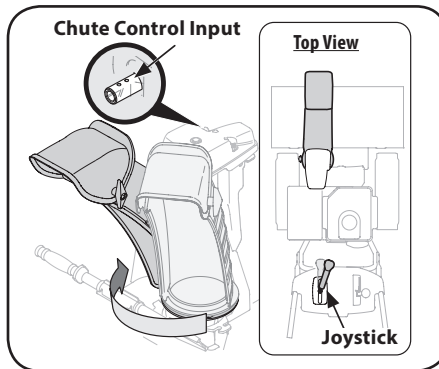

Figure 2-18
4. Squeeze trigger on joystick and rotate chute by hand to face forward. The holes in chute control input will be facing up. See Figure 2-18.